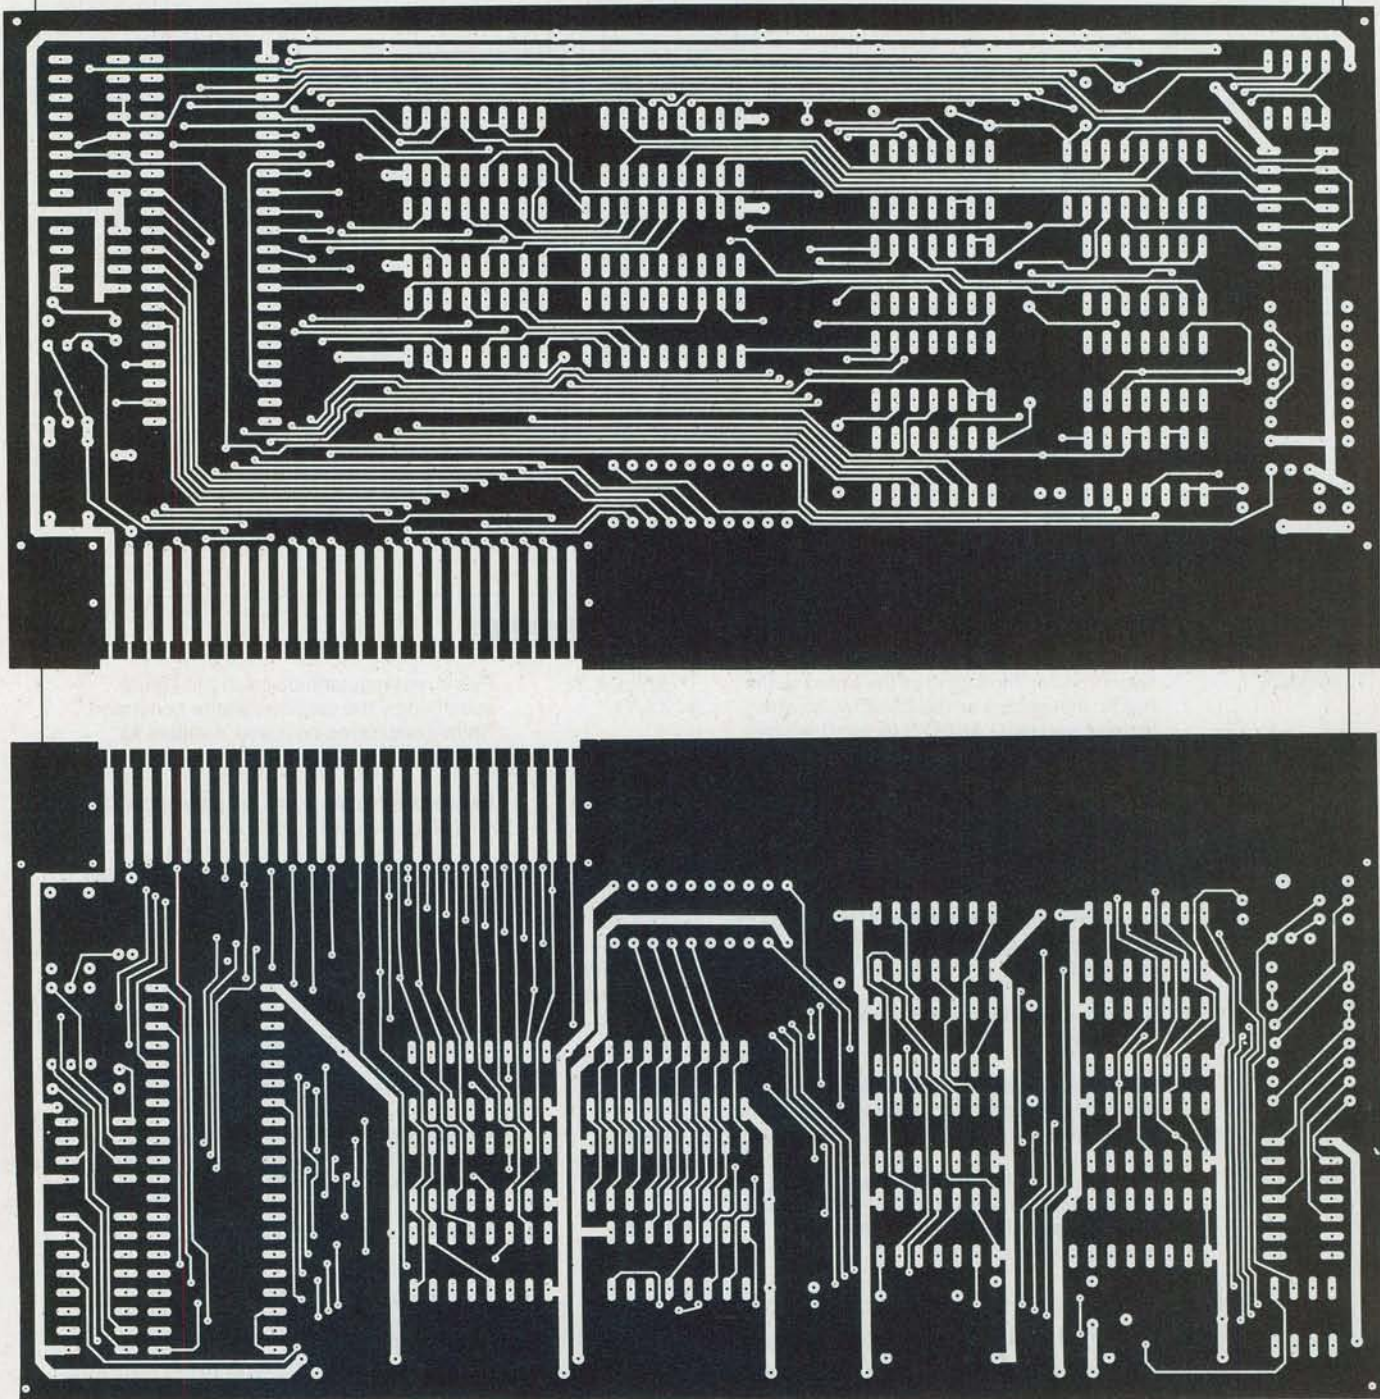

Fig. 6. Foil patterns for the double-sided printed circuit board.
**Construction.** The circuit can be built on any Apple prototyping board using wire wrap or, alternatively, on a pc board such as that shown in Fig. 6. Since some elements of the circuit operate at 7 MHz, take care when using the point-to-point wiring technique.